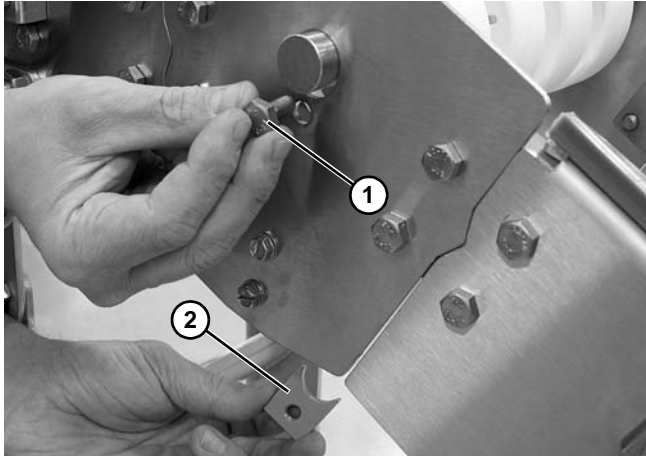

Figure 76
2. Remove bolt (Figure 76, item 1) and shaft retainer (Figure 76, item 2) from each side of the conveyor.